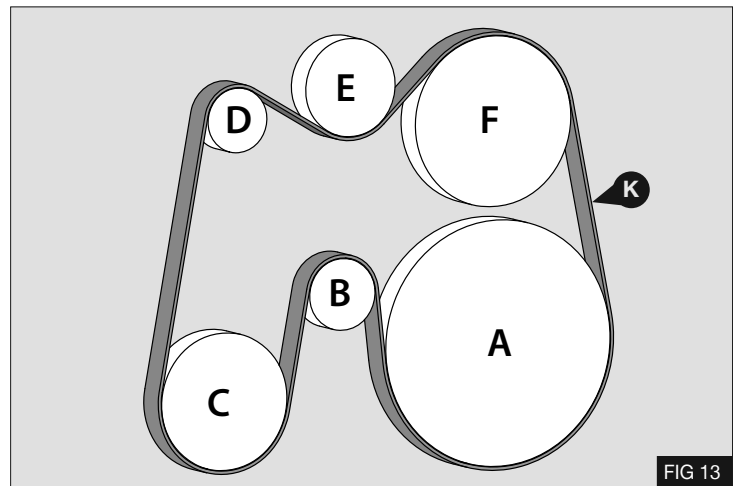

FIG 13
1. Refit the original drive belt (K) and release automatic tensioner - Fig 13